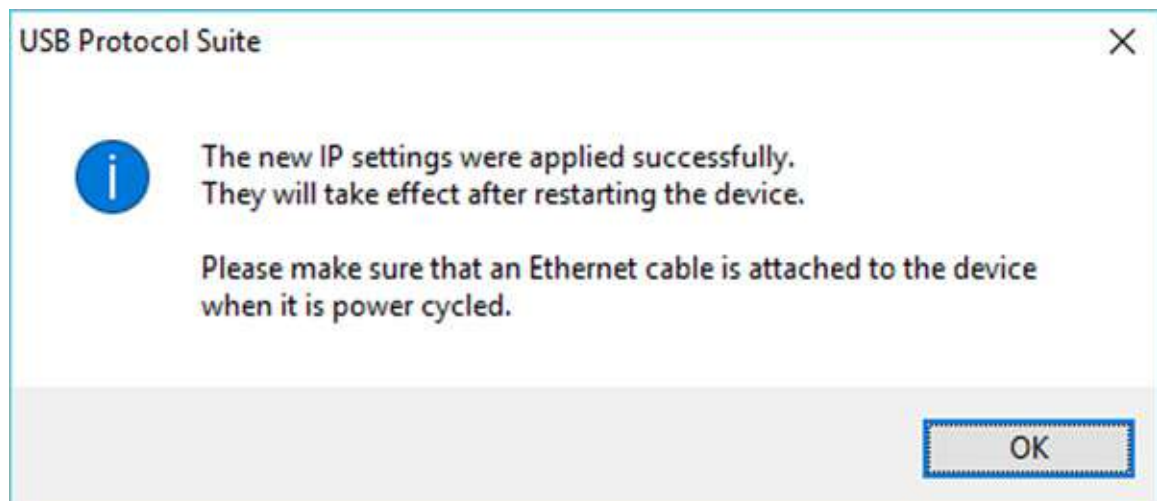

Figure 3.29: New IP Settings Have Been Applied
- Click Apply and a window will popup telling you that the new IP Settings have been applied. See Figure 3.29.